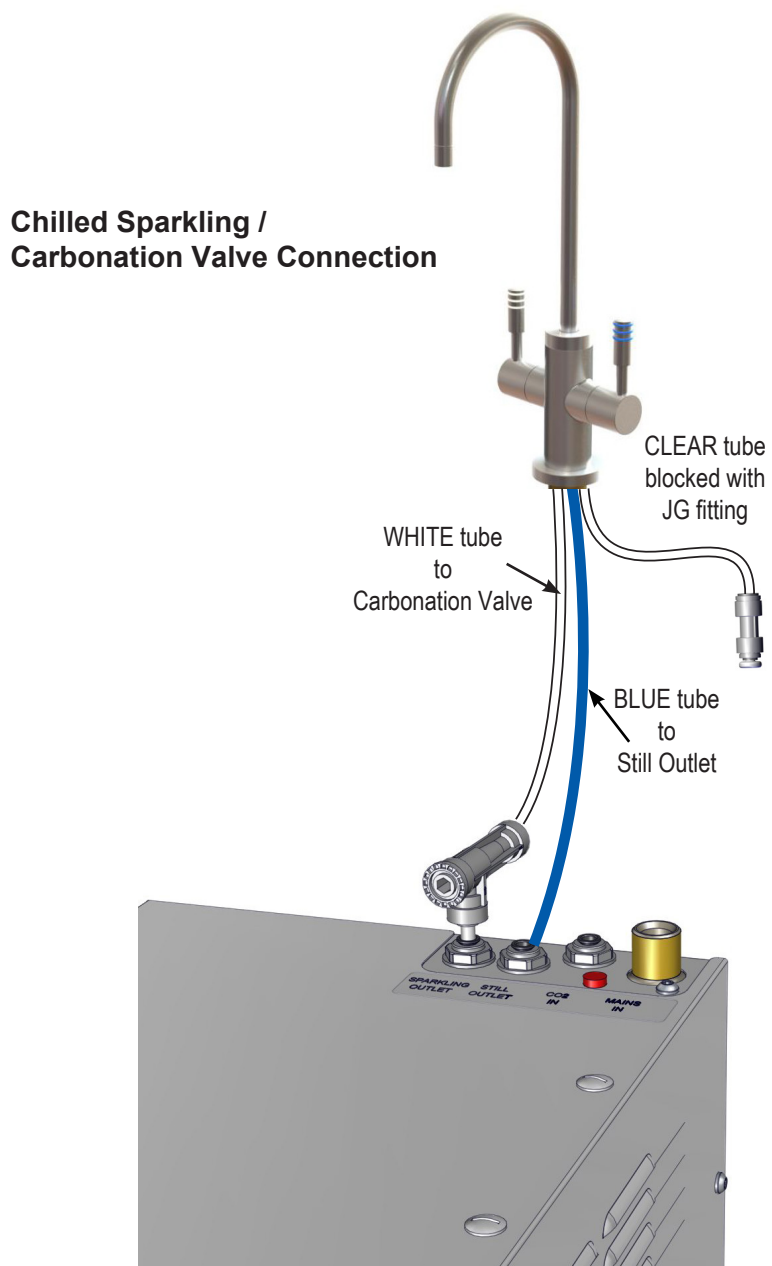

FIG.2
4. Connect the white tube to the carbonation valve as shown in FIG.2. Push the white tube fully into the in carbonation valve. Make sure all connections are pushed in past the "O"ring to full depth.